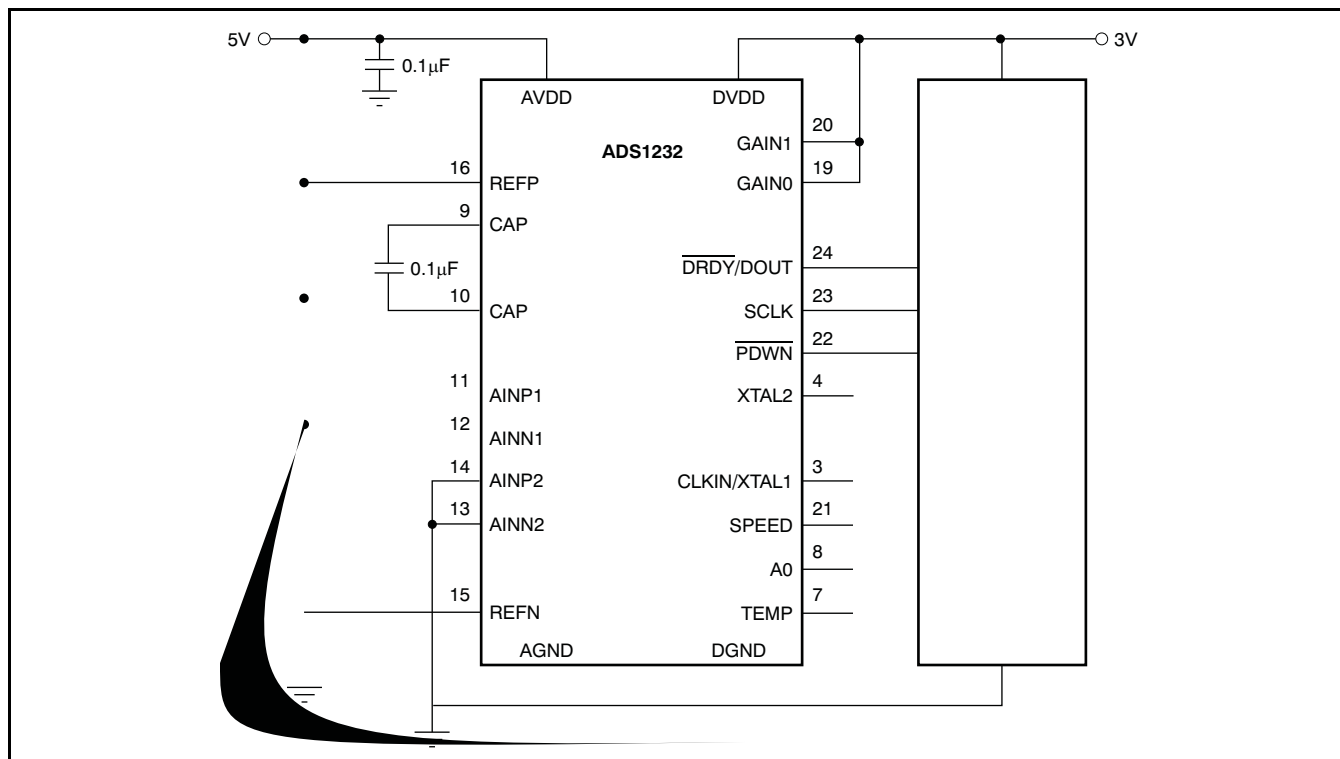

Figure 42. Weigh Scale Application
Figure 42 shows a typical ADS1232 hook-up as part of a weigh-scale system. In this setup, the ADS1232 is configured to channel one input with a gain of 128 at a 10SPS data rate. Note that the internal oscillator is used by grounding the CLKIN/XTAL1 pin. The user can also apply either a 4.9152MHz crystal across the CLKIN/XTAL1 and XTAL2 pins, or simply apply a clock to the CLKIN/XTAL1 pin. For a typical 2mV/V load cell, the maximum output signal is approximately 10mV for a single +5V excitation voltage. The ADS1232/4 can achieve 18.4 noise-free bits at 10SPS when the PGA = 128 (refer to Table 1). With the extra software filtering/averaging (typically done by a microprocessor), an extra bit can be expected.
- Changed Figure 42 25